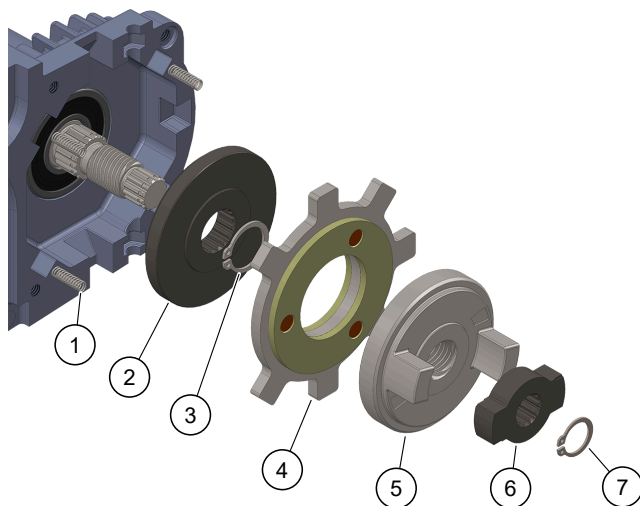
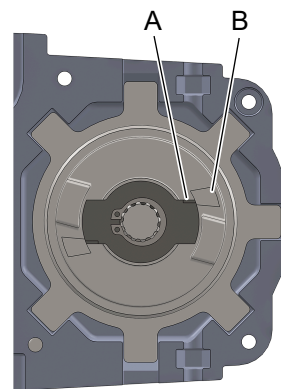

Figure 13. Brake Assembly
Figure 14. Brake Alignment
Disassemble the unit to access the brake components. Refer to Fig. 13 below, and remove the snap ring and the brake hub driver. For adjustment, hand tighten the brake hub to fully seat all components. Re-install the hub driver, making sure the hub driver pointer is inside the alignment zone as shown below in Fig. 14. The brake hub must remain tight during the alignment process for proper orientation.
For replacement, remove all existing brake parts shown in Fig. 13. Ensure all parts are clean, and all four springs are installed in the frame during reassembly. Carefully apply a thin coat of Molykote® 41 Extreme High Temperature Grease to the threads of the Brake Hub (item 5). Make sure no grease comes in contact with the friction surfaces. Follow the brake adjustment procedure outlined above after installing the remaining brake parts.